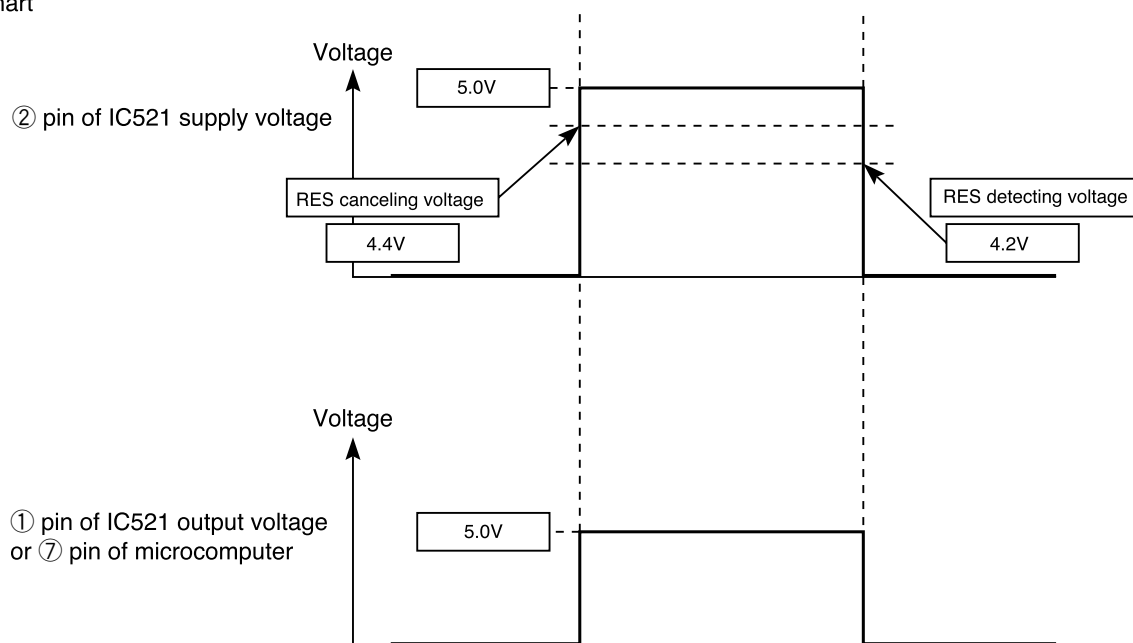

Fig.2-2
- Microcomputer operates when ⑦ pin of the indoor unit microcomputer (reset input) is "Lo" for resetting and "Hi" for hitting.
- Waveform of each part when switching ON the power and when shutting down is shown in the Fig. 2-2.
- After switching ON the power, ① pin of IC521 and ⑦ pin of microcomputer becomes Hi when DC5V line rises and reaches approximately 4.4V or higher. Then, resetting will be cancelled and microcomputer starts operating.
- After shutting down the power, ① pin of IC521 and ⑦ pin of microcomputer becomes Lo when DC5V line falls and reaches approximately 4.2V or lower. Then, the microcomputer will be in reset condition.